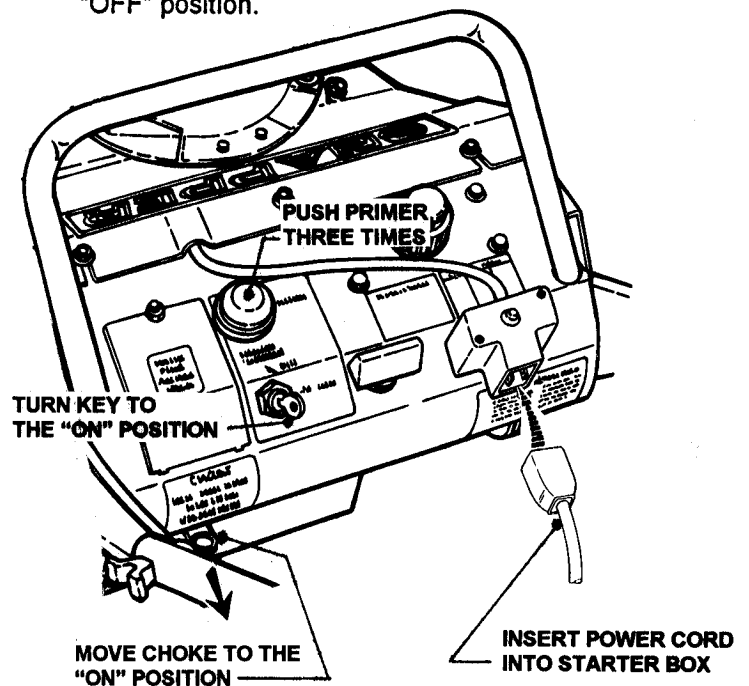

FIGURE 2.8
2. Move choke control to the choke "ON" position. See Figure 2.8.